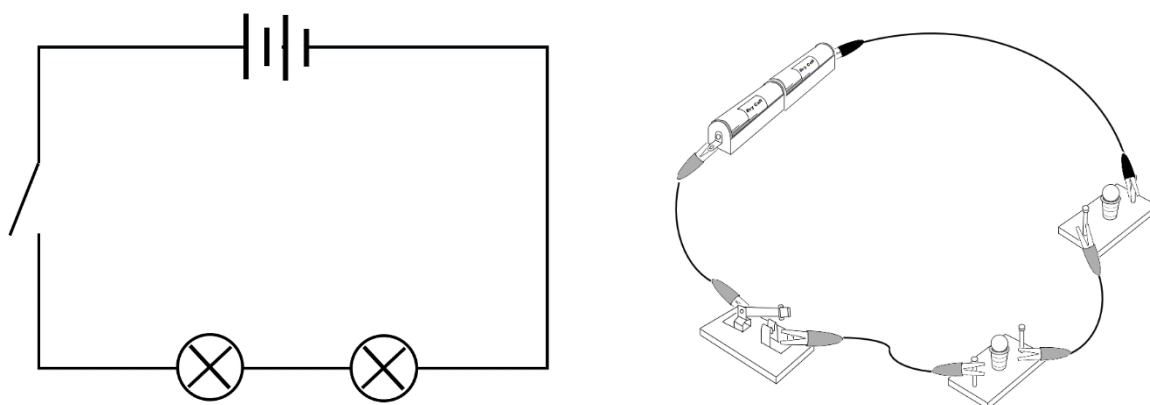
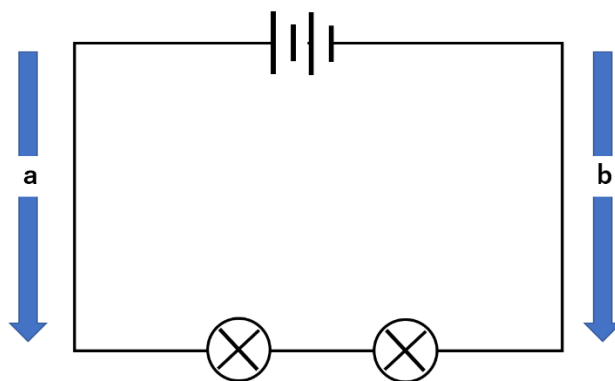

Fig. 1. Series circuit (with two miniature bulbs)
Fig. 2. Direction of electric current in series circuit
1) Assemble a series circuit using two miniature bulbs, two dry cells batteries, and a switch as shown in Fig. 1 below.
1) Predict direction of electric current that flows in the circuit shown in Fig. 1. Which direction, (a) or (b) as shown in Fig. 2, does the electric current flow in that circuit?
3) According to the Table 1, which direction (a or b shown in Fig. 2) do you think the current flows in the circuit?